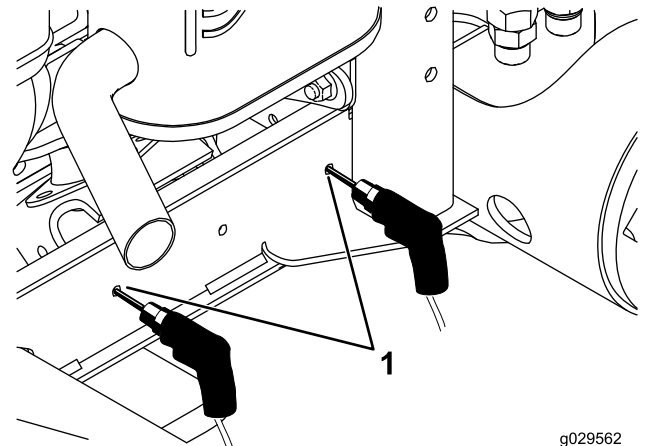

Figure 5
6. Remove the bolt and nut securing the clamp and fender mount to the frame (Figure 5).
7. At the locations that you marked in step 5, drill 2 holes (.281-inch diameter) through the frame channel (Figure 5).